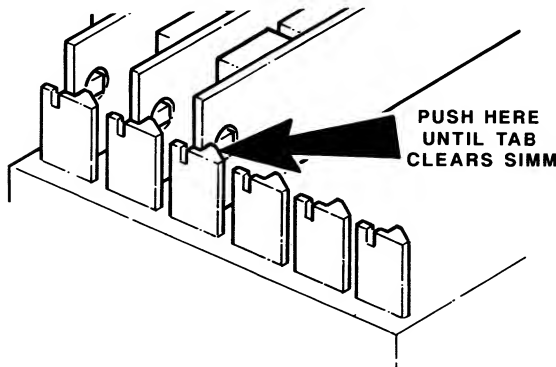

Figure 5-5. Removing SIMMs
2. If you are expanding the RAM memory to 3-megabytes, disregard this step and proceed to step 3. If you are expanding the RAM memory to 6-megabytes, refer to Figure 5-5 and remove the four 256K SIMMs in order, from MM104, MM103, MM102, and MM101, on the main circuit board. Use a small flat-bladed screwdriver to push back on the bracket on each side of the module until the module clears the brackets. Then tip the module toward the power supply and remove the module.